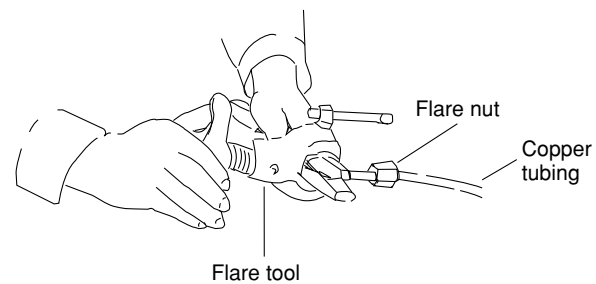

Fig. 7-3
- (3) Remove the flare nut from the unit and be sure to mount it on the copper tube.
- (4) Make a flare at the end of copper tube with a flare tool. (Fig. 7-3)